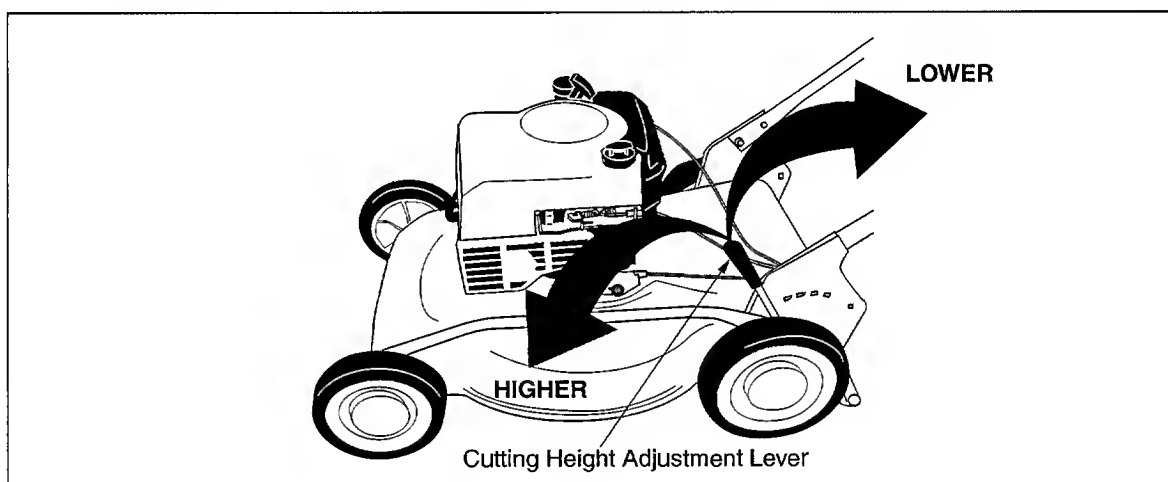

Figure 7
**Note:** Your mower is shipped with the cutting height in the lowest position. Adjust the cutting height as follows. The cutting height adjustment lever is located above the left rear wheel. To adjust the cutting height, pull the lever out and away from the mower and then move it forward or backward to select a new cutting height. See Figure 7.